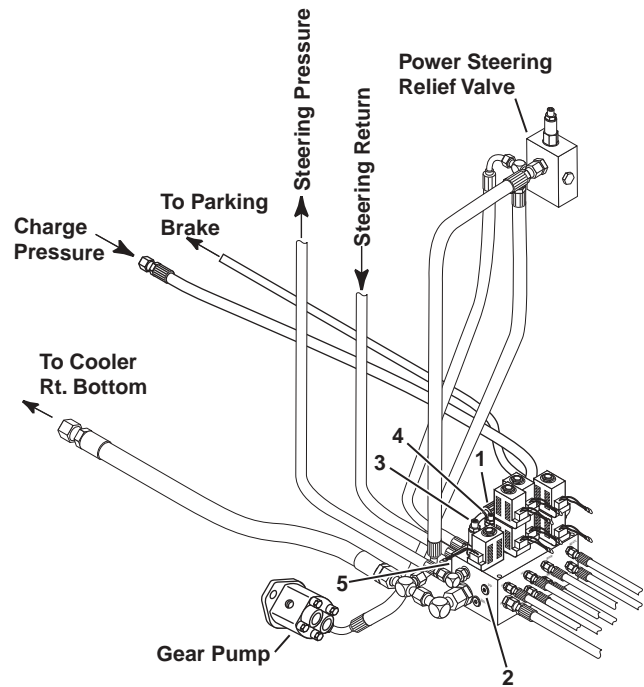

Figure 32. Hydraulic Control Assembly
1) Install 600 PSI gage in the “CGP” port on the hitch manifold (Fig 32, Ref 1). The gage will require a size 04 male boss end to plumb to the gage port. With
1) Install 3000 psi gage in port marked "MP" on steering/hitch manifold located under center deck cover below operators station. This port is SAE 06 MB and requires a 1/4" allen wrench to remove plug. (Figure 32, Ref 2)
3) If the pressure is low, remove cap from top of relief valve using vise grips (Figure 32, Ref 1) and adjust set screw clockwise using a 1/4" allen wrench. If pressure is high, adjust set screw counterclockwise.
3) If the pressure is low, remove cap from top of relief valve using vise grips (Figure 32, Ref 3) and adjust set screw clockwise using a 1/4" allen wrench. If pressure is high, adjust set screw counterclockwise.